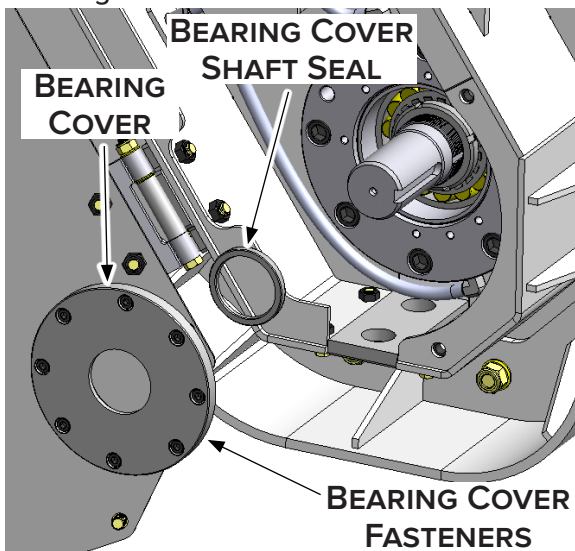

Figure 24
16. Install the bearing housing cover, and torque the fasteners to 25 lbf·ft (34 N·m) with a 6 mm Allen key and medium strength threadlocker. See Figure 24.